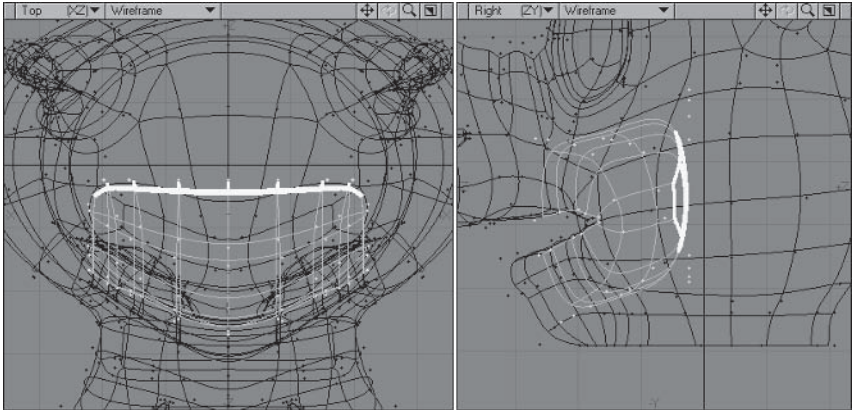

Figure 5.3-98. The first shift creates the back of the gum area, and the second starts to define the mouth.
5. **Super Shift** again, move back, then from the Top view **Stretch** vertically to **0%**. **Drag** the points so the top and bottom points are aligned from the Top view. **Drag** the side points forward a little to match Figure 5.3-98.